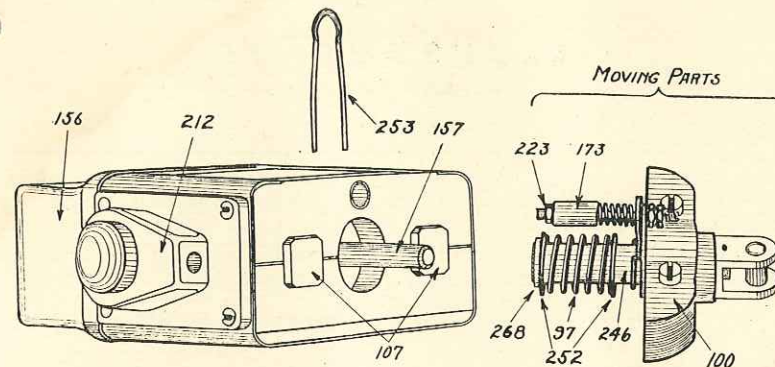
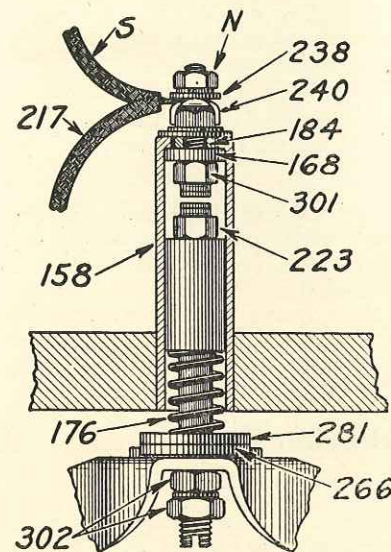

Figure 13
Figure 14
Figure 13 shows the stationary and moving parts of the Wico Magneto. Figure 14 shows the parts with numbers of the breaker point group.
(See Figure 14)
The breaker point contacts (301) and (223) should just touch when the armature (100) is 7-64" from the cores (107). To adjust, trip the armature from its contact with the cores, and insert a strip of metal 7-64" thick between the armature (100) and the face of the cores. Loosen the nuts (302) on the breaker point stem, (see Figure 14), and turn the upper nut until the contact (223) just touches the contact (301). Then set up the lower nut tight against the upper nut. As soon as adjustment has been made, be sure to remove the strip that you placed between armature and cores.
To replace the moving contact (223):—Withdraw the moving parts (see Figure 14) and remove the old contact and its spring (176) from the breaker point plate by unscrewing the two nuts (302). Substitute the new moving contact, being careful to replace the felt washers (266 and 281) as shown in Figure 14.
To replace fixed contact (301):—Remove the front cover and the spring support (253) and withdraw the moving parts (see Figure 13). Disconnect condenser lead (S) and primary lead (217) from breaker point tube (158). Remove all nuts and washers from shank of the contact (301) and push contact down and out of tube. There are two insulating washers (168 and 184) inside of tube and these should be removed also.
Remove the front cover and use a small wire or piece of wood to remove any dirt from the surfaces of the contacts (301 and 223) and from the insulating washer (168). (See Figure 14.) See that electrical connections are tight.